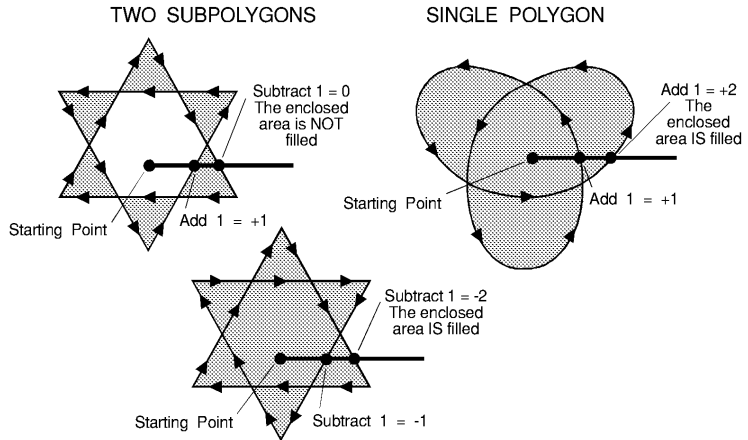

Figure 21-9 Filling Polygons: Non-Zero Winding Fill Method
- 4 FP fills the enclosed area in question if the sum of steps 2 and 3 is non-zero. Figure 21-9 illustrates the non-zero winding fill concept.